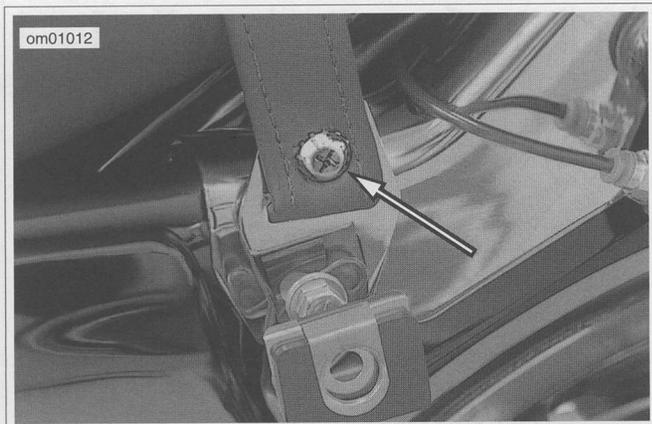

Figure 78. Seat Strap Bracket Screw (FLHT/C/U)
1. See Figure 78. Open left saddlebag cover and remove fastener from seat strap bracket.
5. See Figure 78. Install end of seat strap in slot of seat strap bracket. Install seat strap bracket fastener. Tighten to 5.4-8.1 N·m (48-72 in-lbs).
2. See Figure 78. Open left saddlebag cover and remove seat strap bracket fastener.
7. See Figure 78. Install end of seat strap in slot of seat strap bracket. Install seat strap bracket fastener. Tighten to 5.4-8.1 N·m (48-72 in-lbs).